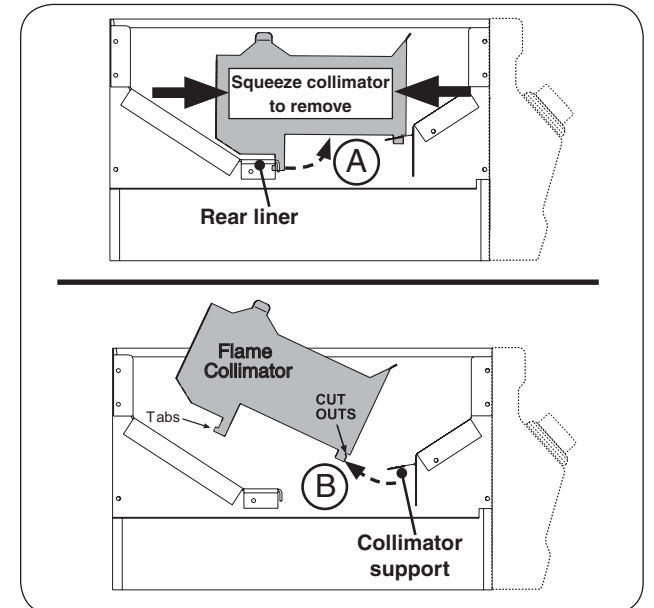

Fig. 32-2 Flame collimator removal
2. Lift up the interior protection plate from the left side, then lift up from the right side (see Fig. 32-2, A and B).
3. While lifting the plate upward, flex the collimator inward to completely free the protection plate (see Fig. 32-2, C).